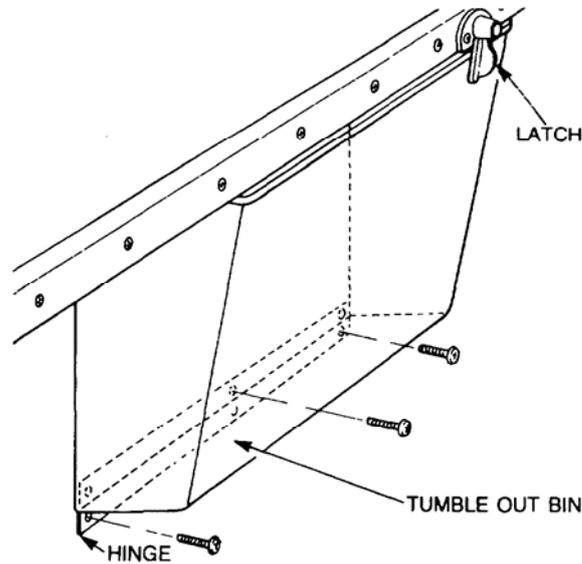

Figure 40 Tumble Out Bins Removal
- Remove the three screws securing the bin hinge to the lower litter side rail (refer Figure 40).